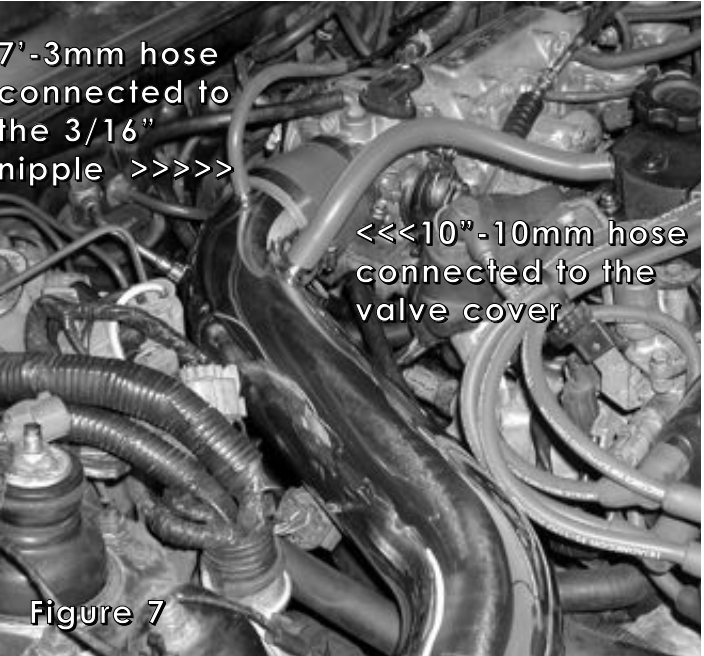

Figure 7
- 6- Press the 7"- 3mm vacuum hose onto the 3/16" nipple on the intake as seen in figure 7. Connect the 10mm vacuum hose to the 1/2" nipple on the intake.